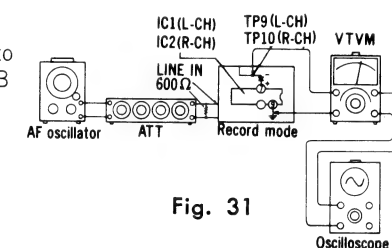

Fig. 31
- Test equipment connection is shown in fig. 31.